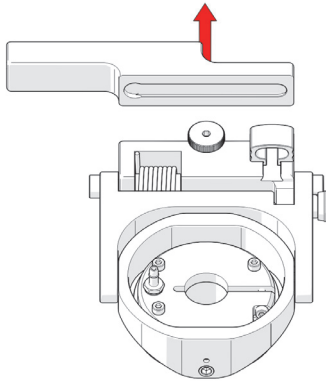

Figure 2-37 Remove bracket
3. Remove the mounting bracket (see Figure 2-37 on page 74).